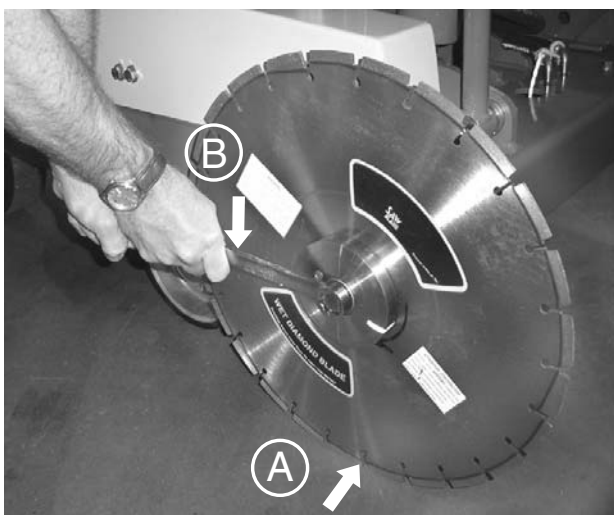

Figure 13. Torque Flange Bolt
6. Lower the blade to the ground surface (Figure 13, Item A) to prevent blade from spinning and tighten the mounting bolt to 125-175 ft. lbs. (169.5 -237.3 Nm) of torque (Figure13, Item B).